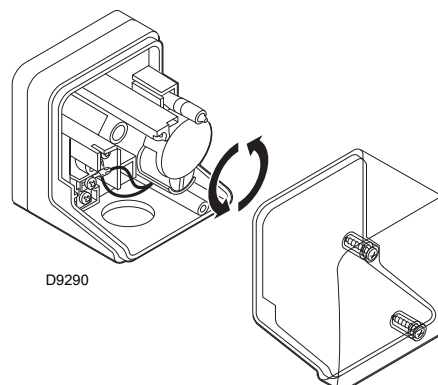

Fig. 36
- Adjust the minimum gas pressure (Fig. 36) switch to the start of the scale.
Adjust the minimum gas pressure switch (Fig. 36) after having adjusted the burner, the gas valves and the gas train stabiliser. With the burner operating at maximum output: